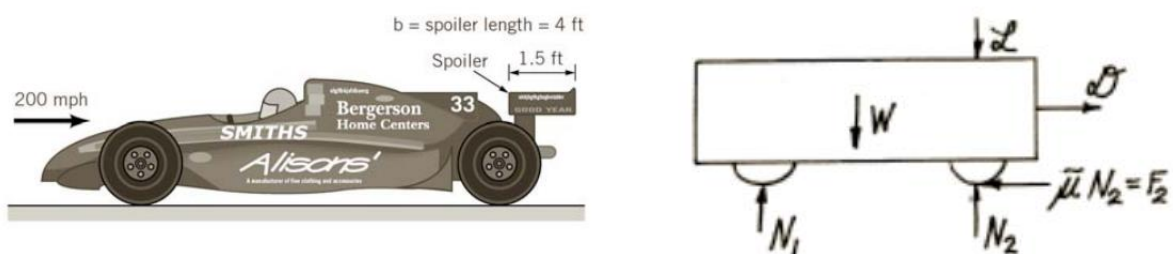

Figure 1
- 2B. Sketch and explain the effect of diffuser length on rear axle lift and drag of the vehicle. (04)
- 2C. 70-kg bicyclist is riding her 15-kg bicycle downhill on a road with a slope of 25° without pedaling or braking. The bicyclist has a frontal area of 0.45 m^2 and a drag coefficient of 1.1 in the upright position, and a frontal area of 0.4 m^2 and a drag coefficient of 0.9 in the racing position. Disregarding the rolling resistance and friction at the bearings, determine the terminal velocity of the bicyclist for both positions. Take the air density to be 1.25 kg/m^3 . (03)
- 3A.** The aerodynamic drag of a new sports car is to be predicted at a speed of 60.0 mi/h at an air temperature of 25°C. Automotive engineers build a one-third scale model of the car to test in a wind tunnel. The temperature of the wind tunnel air is also 25°C. The drag force is measured with a drag balance, and the moving belt is used to simulate the moving ground (from the car's frame of reference). Determine how fast the engineers should run the wind tunnel to achieve similarity between the model and the prototype. For air at $T = 25^\circ\text{C}$ and atmospheric pressure, $\rho = 1.184 \text{ kg/m}^3$ and $\mu = 1.849 \times 10^{-5} \text{ kg/ms}$. (03)
- 3B.** Define vehicle soiling. With suitable sketch explain the methods adopted in busses and trucks to reduce soiling. (04)
- 3C.** Sketch and explain the effect of rear spoiler on drag and lift of the passenger vehicle. (03)
- 4A.** Explain the effect of yaw angle on coefficient of drag of the passenger and commercial vehicles. (04)
- 4B.** With suitable sketch explain the effect of cab to trailer body gap seals on drag coefficient of commercial vehicle. (03)
- 4C.** Explain the working principle of hot wire anemometer. (03)
- 5A.** With neat sketch explain the different jet boundary conditions used in wind tunnel. (04)
- 5B.** Explain the effect of different car shapes on yawing moment and side force. (03)
- 5C.** As shown in the Figure 1, a spoiler is used on race cars to produce a negative lift, thereby giving a better tractive force. The lift coefficient for the airfoil shown is 1.1, and the coefficient of friction between the wheels and the pavement is 0.6. At a speed of 200 mph, by how much would use of the spoiler increase the maximum tractive force that could be generated between the wheels and ground? Assume the air speed past the spoiler equals the car speed and that the airfoil acts directly over the drive wheels. (03)